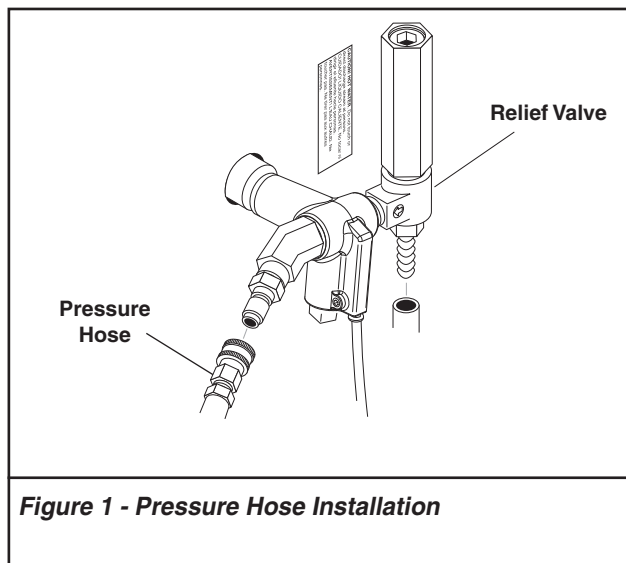

Figure 1 - Pressure Hose Installation
2. Install pressure hose on machine as shown in **Figure 1**.